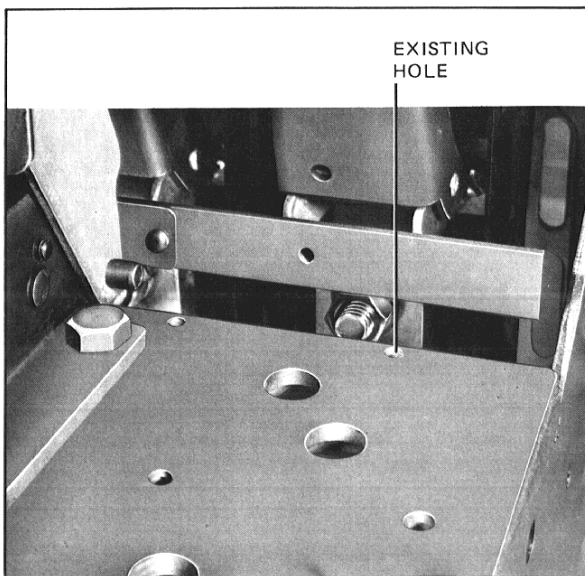
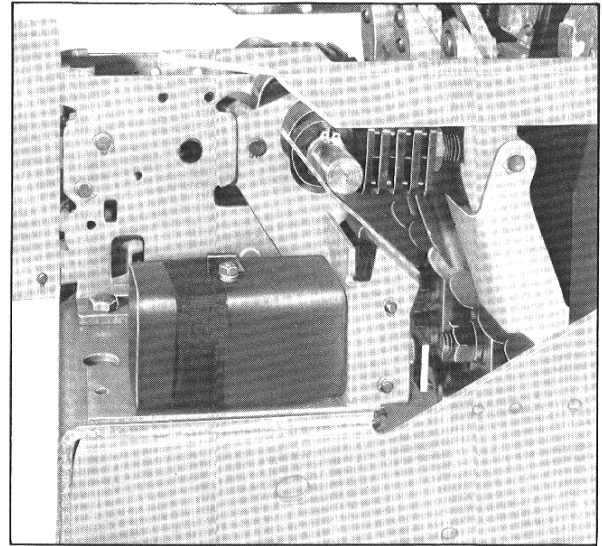

Fig. 9 Location of Existing Hole for Actuator
Fig. 10 Positioning of Actuator
- Using the existing .25-20 tapped hole in the breaker platform, Fig. 9 and .25-20 x .5 sems screw secure the Actuator to the breaker with the right edge of the Actuator base parallel to the side of the breaker platform, Fig. 10.